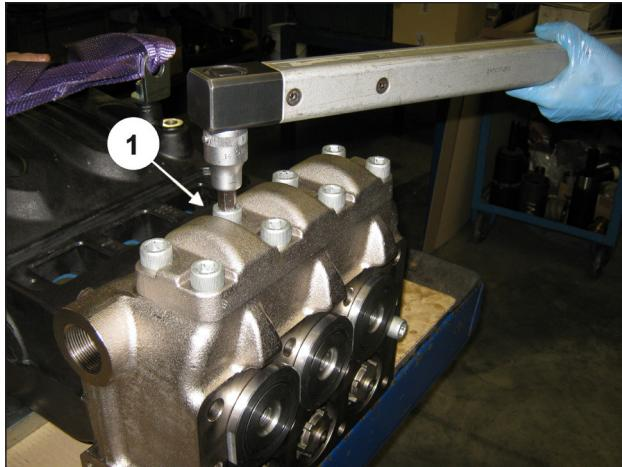
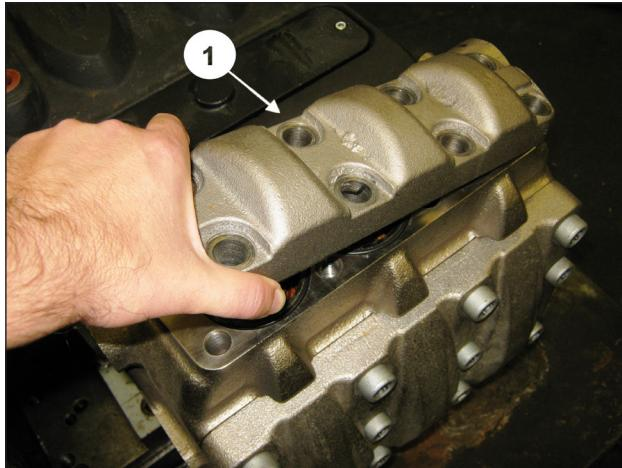

Fig. 100
Fig. 101
Unscrew the 8 M16x45 screws of the outlet valve cover (pos. ①, Fig. 100) and remove the cover (pos. ①, Fig. 101).